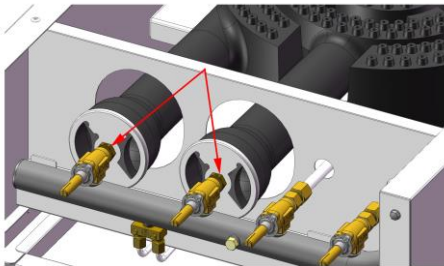

Fig.8
2. As Fig. 8 shows, screw out the Propane Gas orifice counterclockwise, then screw in the Natural Gas orifice clockwise.